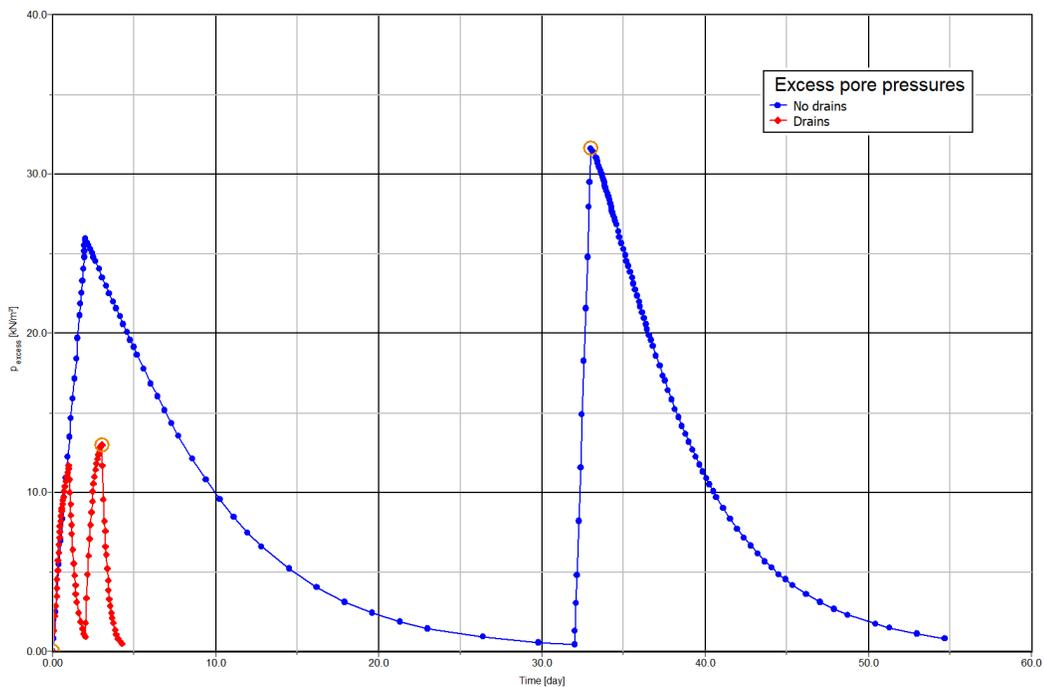

Figure 127: Effect of drains
10. Click **Apply** to preview the generated curve and click **OK** to close the **Settings** window. The chart gives a clear view of the effect of drains in the time required for the excess pore pressures to dissipate as shown in Figure 127 (on page 145):